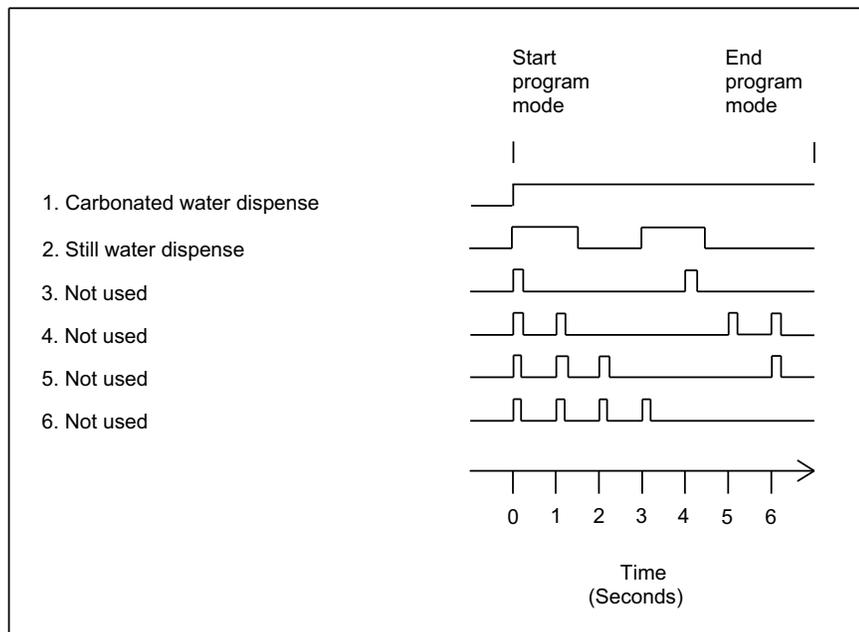

Figure 2. Water Select Mode Flash Sequence Diagram
In Water Select Mode, each of the brand buttons flashes in a sequence according to one (1) of six (6) dispense types. Cold Fusion only uses Dispense Types 1 and 2. Dispense Types 3 through 6 are not used. However, it is possible to still program these Dispense Types. Insure that each brand button is only set to either Dispense Type 1 or 2 for normal dispensing. The dispense types are described below, and their corresponding brand button illumination sequence is shown in the timing diagram in Figure 2.